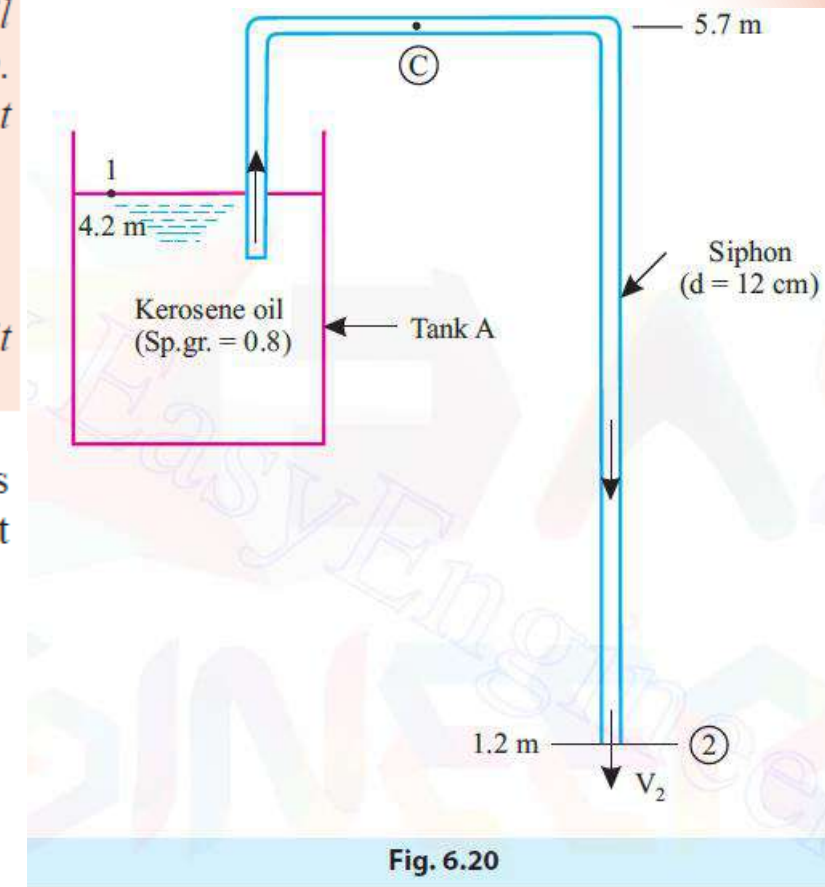

Fig. 6.20
**Solution.** Consider points 1 and 2 at the surface of the oil in the tank A and at the outlet as shown in Fig. 6.20. The velocity  $V_1$  can be assumed to be zero. Applying Bernoulli's equation at points 1 and 2, we get: